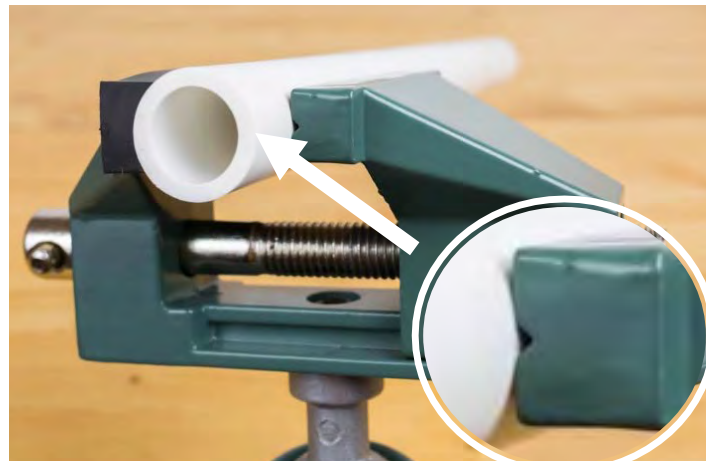

Figure 4
- Position one section of PVC pipe in the table vise. (Figure 4)
- For ease of marking and accuracy, secure each piece of pipe in the table vise when measuring (shown previously in Figures 4 & 5).